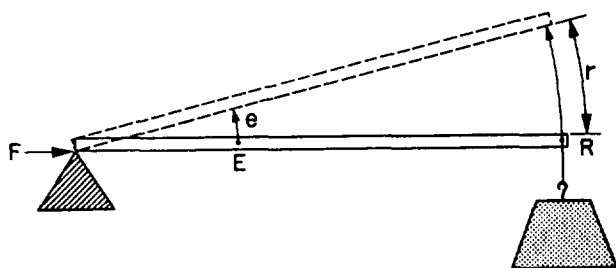

Figure 1-5.-A third-class lever.
weight or resistance to be overcome is at the other end, with the effort applied at some point between. You can always spot the third-class levers because you will find the effort applied between the fulcrum and the resistance. Look at figure 1-5. It is easy to see that while E moved the short distance (e), the resistance (R) was moved a greater distance (r). The speed of R must have been greater than that of E, since R covered a greater distance in the same length of time.